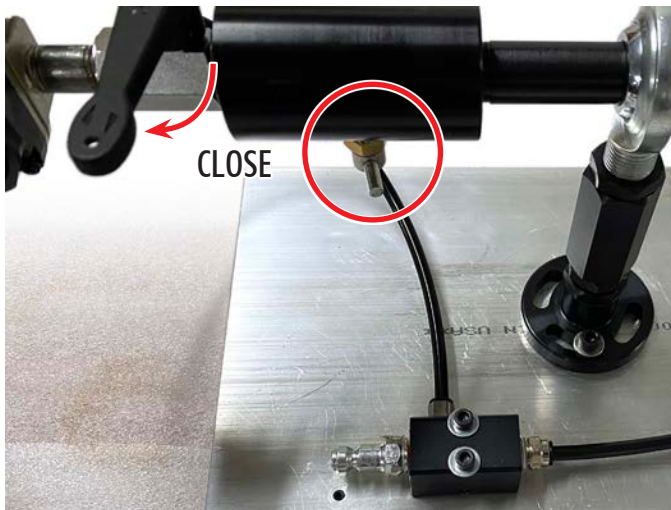

FIGURE 61—The red circle shows the location of the bleeder valve. Close both the bleeder valve and the ball valve lever.
5. Now that all of the air lines are connected. Turn the ball valve lever to the closed position and close the bleeder valve (see Figure 61).